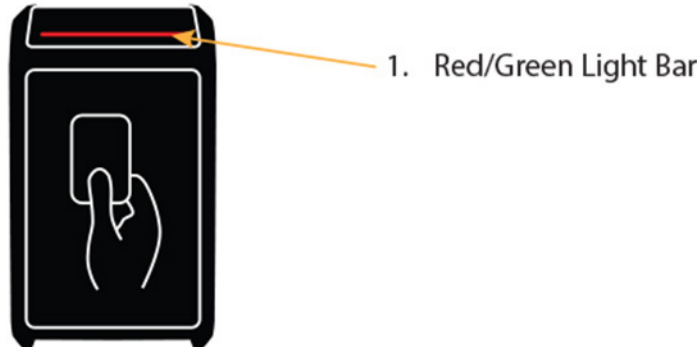

Figure 4
4) Card Only Mode - On the dual interface readers both the contact and contactless interfaces are active. On the single interface readers the contactless interface is active. To use the contactless interface, place the card on the front of the reader as indicated in figures 6, 7 and 8. If the card is read the light bar turns amber, For access granted, the light bar will flash green and reader beeps fast 4 times (on all readers) and the entry indicator turns on green for readers with keypads. For access denied the light bar flashes red and the reader sounds 3 long beeps (all readers). To use the contact interface insert the card with the chip oriented as shown in figures 4 and 6. The access granted and access denied indicators are the same as the contactless interface.